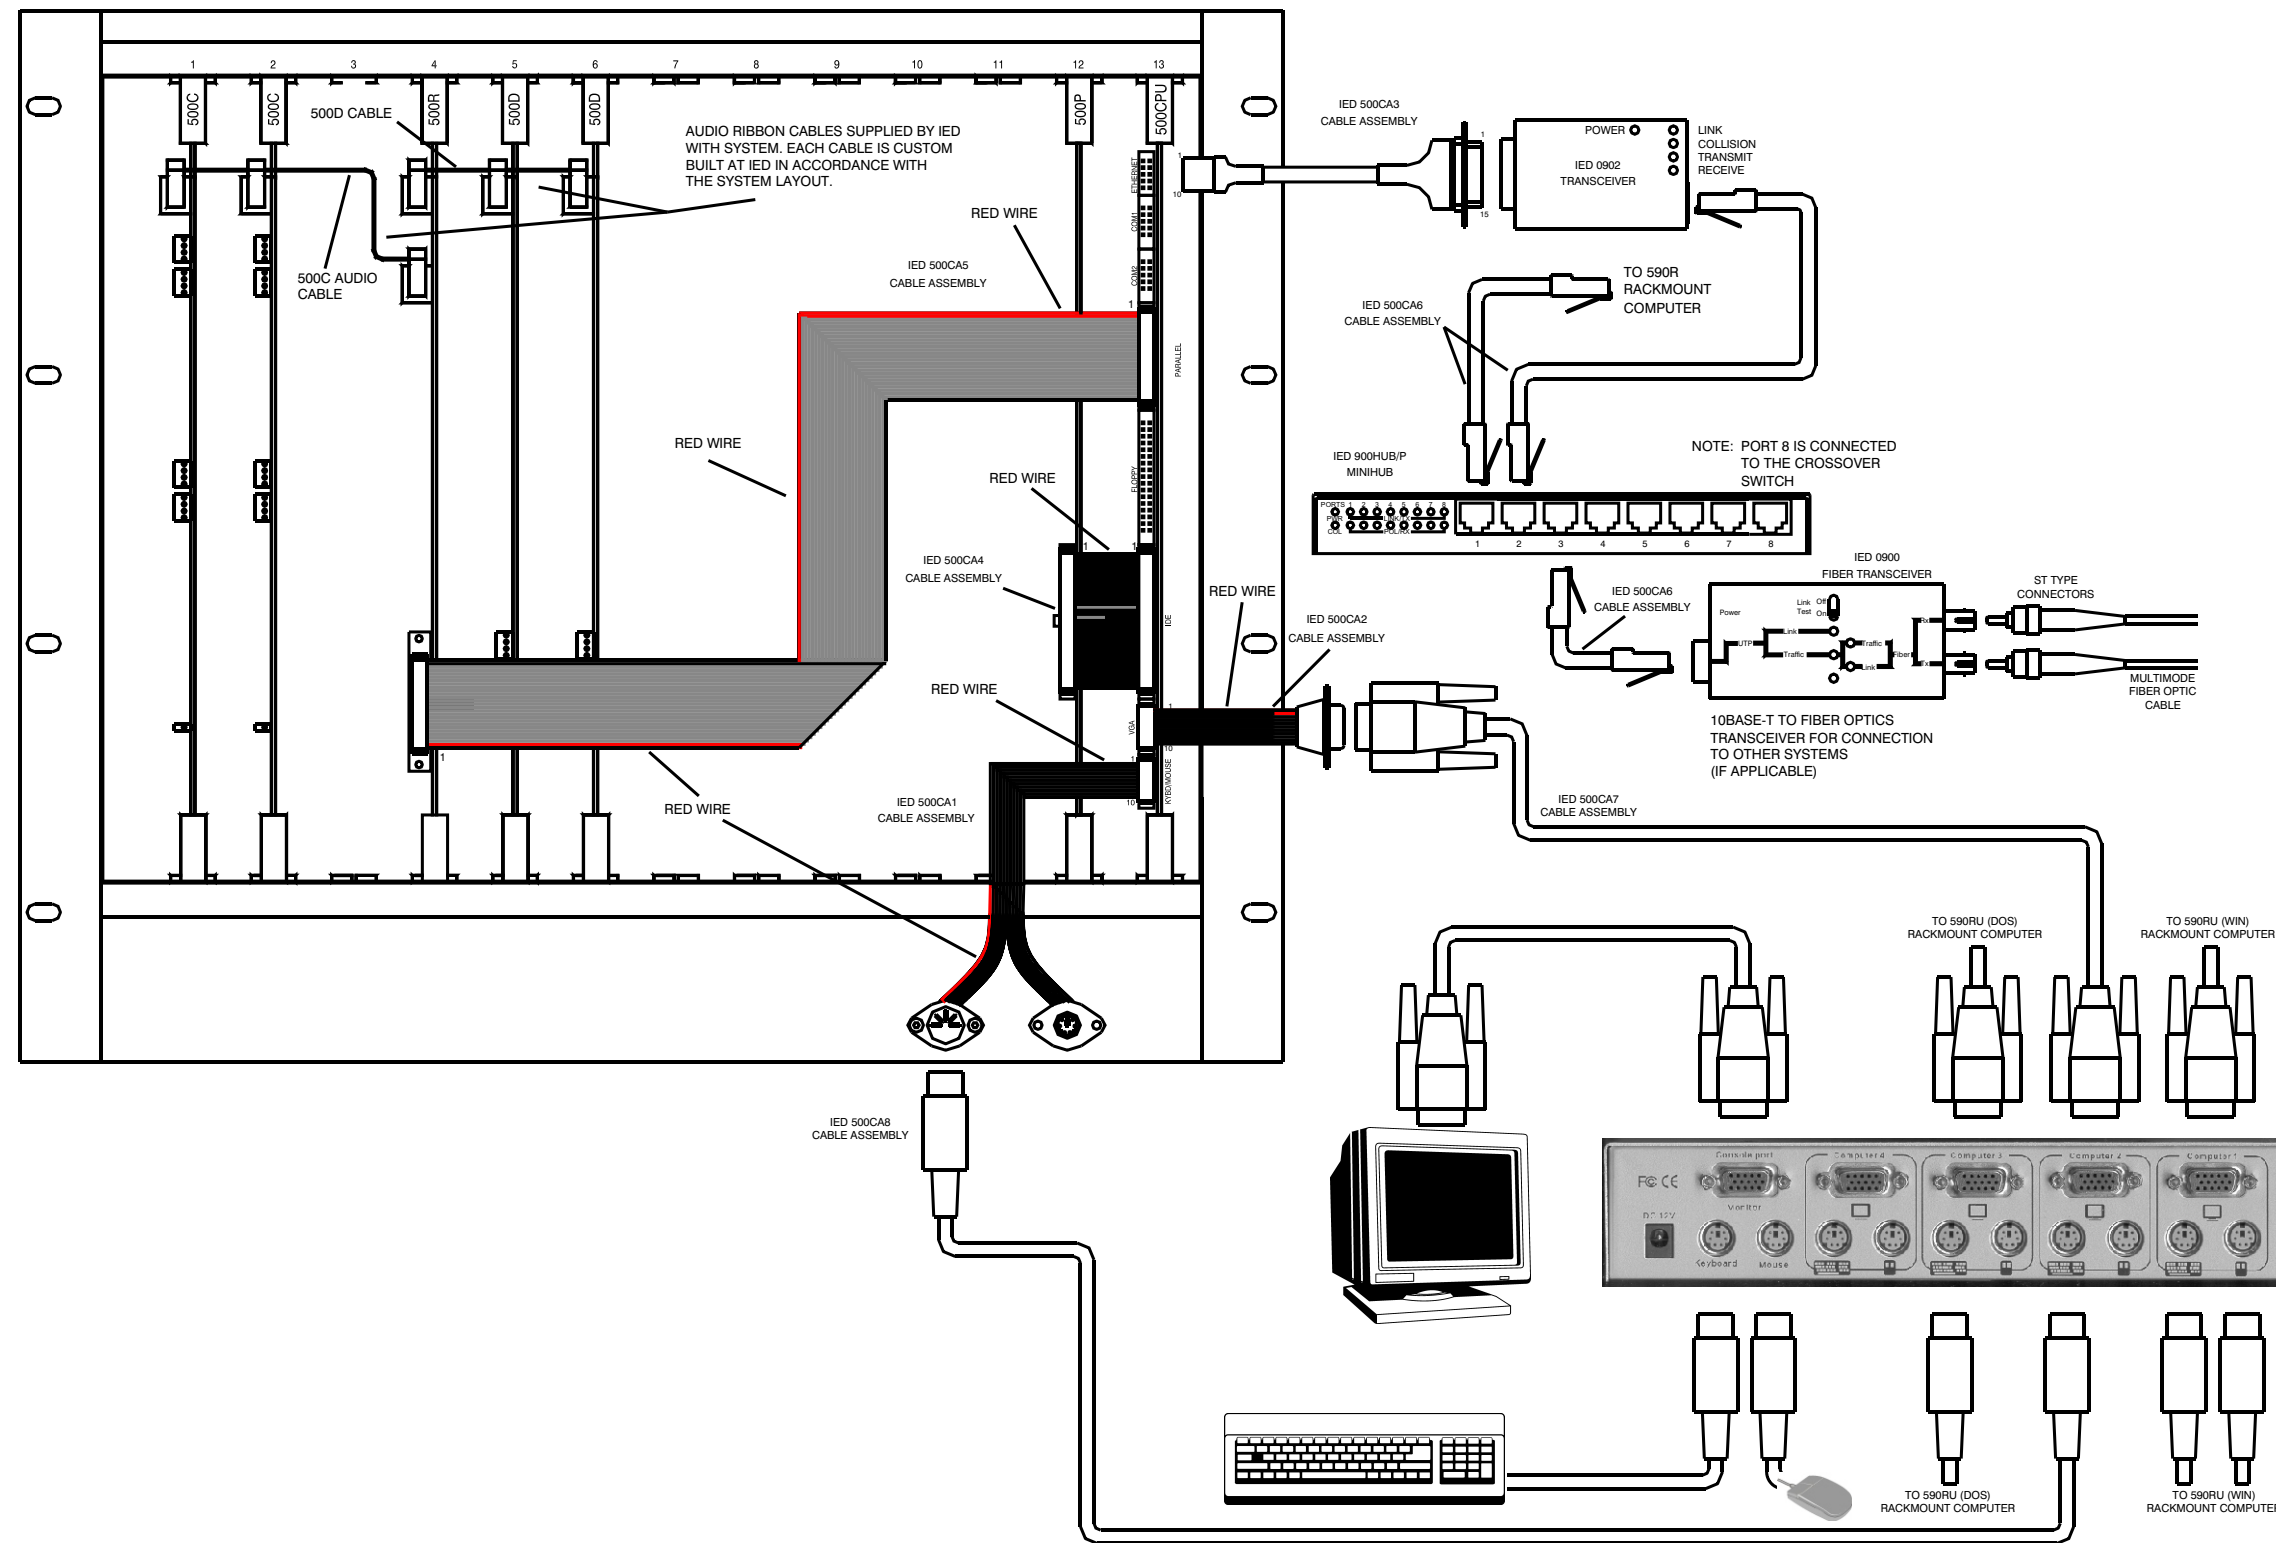

Figure 8 - 500ACS With 500CPU-486
The 500ACS is shipped from the factory with all plug-in cards installed. The function cards are jumper addressed and must be installed in the particular slot for which they are addressed. To perform voltage checks or other testing, do not remove any of the cards completely unless necessary. With power off, simply pull them forward enough to unplug them, so that they clear the card edge connector. If it becomes necessary to remove one or more cards, be sure to make a note of the slot from which it/they were removed. As an aid, refer to Figure 8. The 500CPU-486 always plugs into slot 13, the slot furthest to the right as viewed from the front. The 500P always plugs into slot 12, just to the left of the CPU. 500C cards always plug into 500FT terminal strips. 500D and 500DR cards always plug into 500GT terminal strips. The 500R card always plugs into a 500RT
8. Install the audio bus ribbon cables between the 500C cards and the 500R. See Figure 8. In all cases, follow the Mainframe Layout Chart. Be sure that the red stripe faces the front of the mainframe. These cables are supplied with the system and are custom made at IED for each specific application.
9. Install the audio bus ribbon cables between the 500D cards and the 500R. See Figure 8. In all cases, follow the Mainframe Layout Chart. Be sure that the red stripe faces the front of the mainframe. These cables are supplied with the system and are custom made at IED for each specific application.
10. Plug the 500CA3 RS422 Cable into the Ethernet connector on the front edge of the 500CPU-486 card. Refer to Figure 8. The other end is fed through to the back of mainframe using the space between the top of the mother board and the top of the mainframe. It is then plugged into the IED 0902 10Base-T Ethernet Transceiver. The connector that plugs into the 500CPU-486 card is keyed. If it does not plug in easily, turn it 180°. **Forcing or plugging in upside down will damage the 500CPU-486 card and void the warranty.**
11. Connect the 500P card to the 500CPU-486 using the 500CA4 cable supplied. See Figure 8.
12. Connect the 500R lower connector to the 500CPU-486 with the 500CA5 cable. See Figure 8. Make sure that the red stripe is down at the 500R and up at the 500CPU-486.
13. Plug the 500CA1 Keyboard/Mouse Adapter Cable into the Keyboard/Mouse connector on the front edge of the 500CPU-486 card. Refer to Figure 8. The other end with the two connectors is fed through to the back of mainframe using the space between the top of the mother board and the top of the mainframe.
14. Plug the 500CA2 VGA Adapter Cable into the VGA connector on the front edge of the 500CPU-486 card. Refer to Figure 8. The other end is fed through to the back of mainframe using the space between the top of the mother board and the top of the mainframe.
15. Plug one end of a 500CA6 Cable into the IED 0902 10Base-T Ethernet Transceiver. Plug the other end into the IED 0904 Ethernet Switch. Refer to Figure 8.
16. Connect one end of a 500CA7 Monitor Extension Cable to the end of the 500CA2 Adaptor Ribbon Cable which was previously fed through to the back of the mainframe. Connect the other end to the 500VS4L/H Video/Keyboard Switcher, monitor connector of CPU 1. Refer to Figure 8.
17. Connect one end of a 500CA8 Keyboard Extension Cable to the keyboard connector end of the 500CA1 Adaptor Ribbon Cable which was previously fed through to the back of the mainframe. Connect the other end to the 500VS4L/H Video/Keyboard Switcher, keyboard connector of CPU 2. Refer to Figure 8.
18. Plug one end of a 500CA6 Cable into the rear of the 590R Computer. Plug the other end into the IED 0904 Ethernet Switch. Refer to Figure 8.
19. If the system consists of multiple ACSs with a fiber optic link, plug one end of a 500CA6 Cable into the IED 0900 10Base-T Fiber Optic Transceiver. Plug the other end into the IED 0904 Ethernet Switch. Refer to Figure 8. Make the necessary fiber optic connections between transceivers.
20. Connect one end of a 500CA7 Monitor Extension Cable to the end of the monitor connector on the rear of the 590RU-DOS gateway Rack Mount Computer. Connect the other end to the 500VS4L/H Video/Keyboard Switcher, monitor connector of CPU 3. Refer to Figure 8.
21. Connect one end of a 500CA8 Keyboard Extension Cable to the keyboard connector on the rear of the 590R Windows Rack Mount Computer. Connect the other end to the 500VS4L/H Video/Keyboard Switcher, keyboard connector of CPU 1. Refer to Figure 8.
22. Plug the cable attached to the keyboard into the 500VS4L/H Video/Keyboard Switcher, keyboard connector, console position. Refer to Figure 8.
23. Plug the video cable attached to the monitor into the 500VS2L/H Video/Keyboard Switcher, monitor connector, console position. Refer to Figure 8.